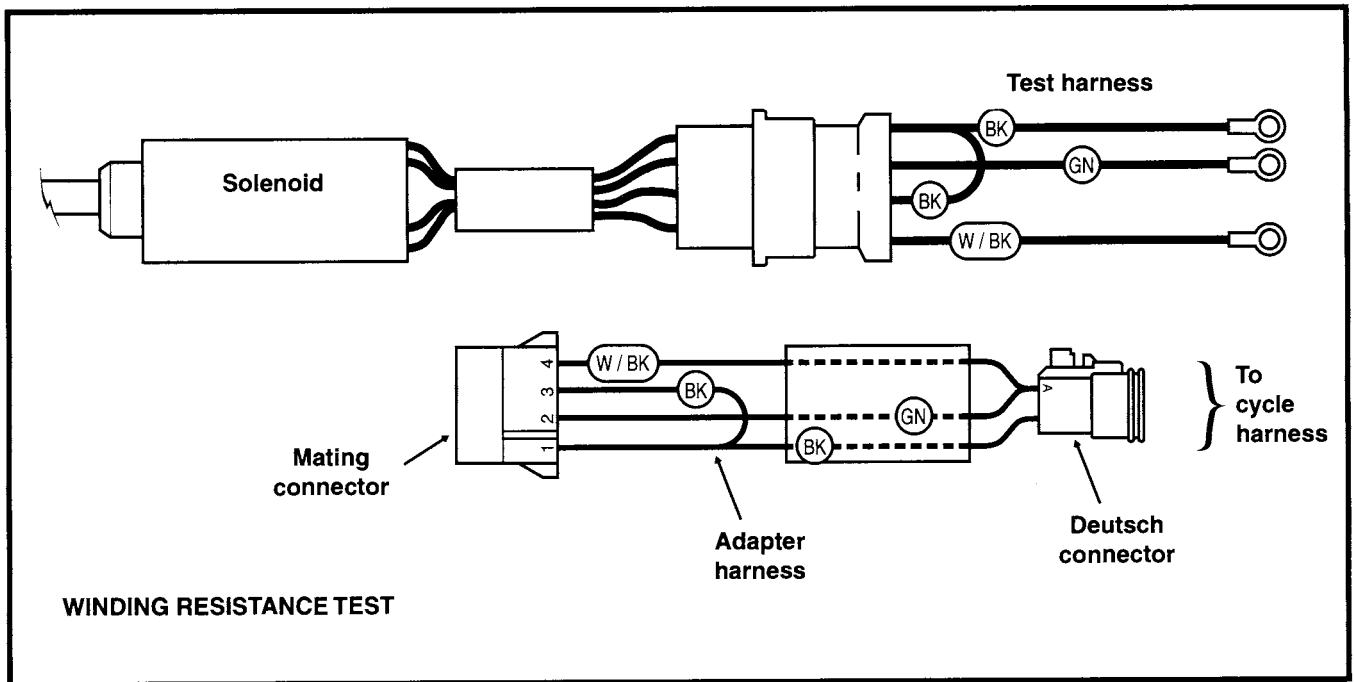

Figure 23. Resistance Test Hookup
1. Unplug 4-place connector (17) from solenoid.
2. See Figure 23. Connect the test harness to the solenoid as shown.
- A. A good ground (1 Ohm or less) at the BK wire in the 4-place mating connector (see Figure 23).
6. If butterfly valve does not remain open in Step 3, check that a good ground exists on the BK lead of the 4-place mating connector (see Figure 23).
8. Using a voltmeter, verify that the W/BK wire at the 4-place mating connector (see Figure 23) has 12VDC when the ignition/light switch is ON.